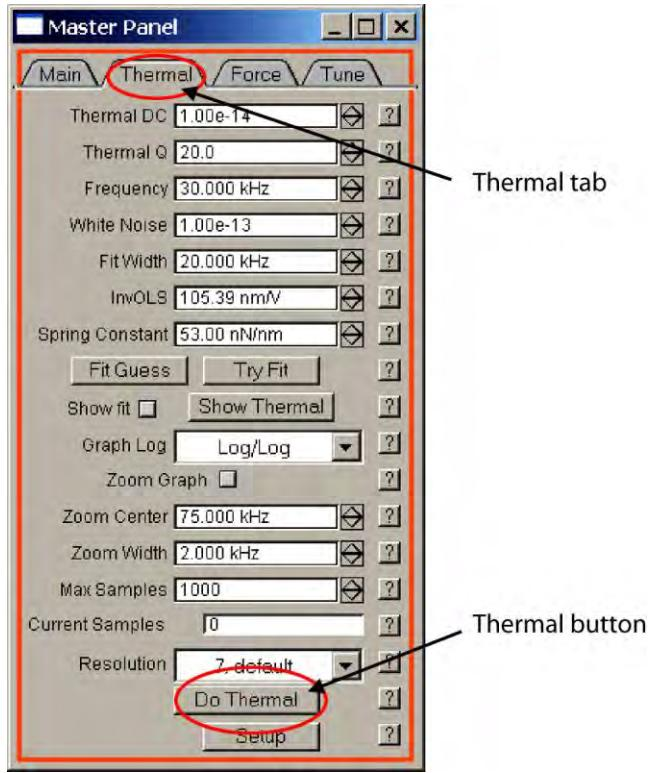

Figure 5.43 Master Panel, Thermal
1. In the Master Panel, click the ‘Thermal’ tab to bring it to the front of the window (See Figure 5.43).